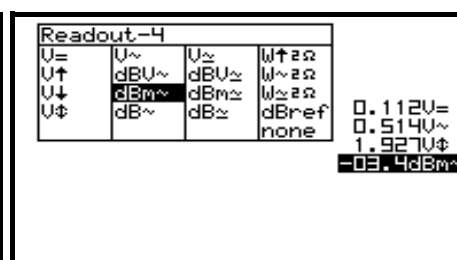

Fig 20
8. Press the cursorkeys to highlight the desired readout function for meter4 readout. (**Fig. 20**)